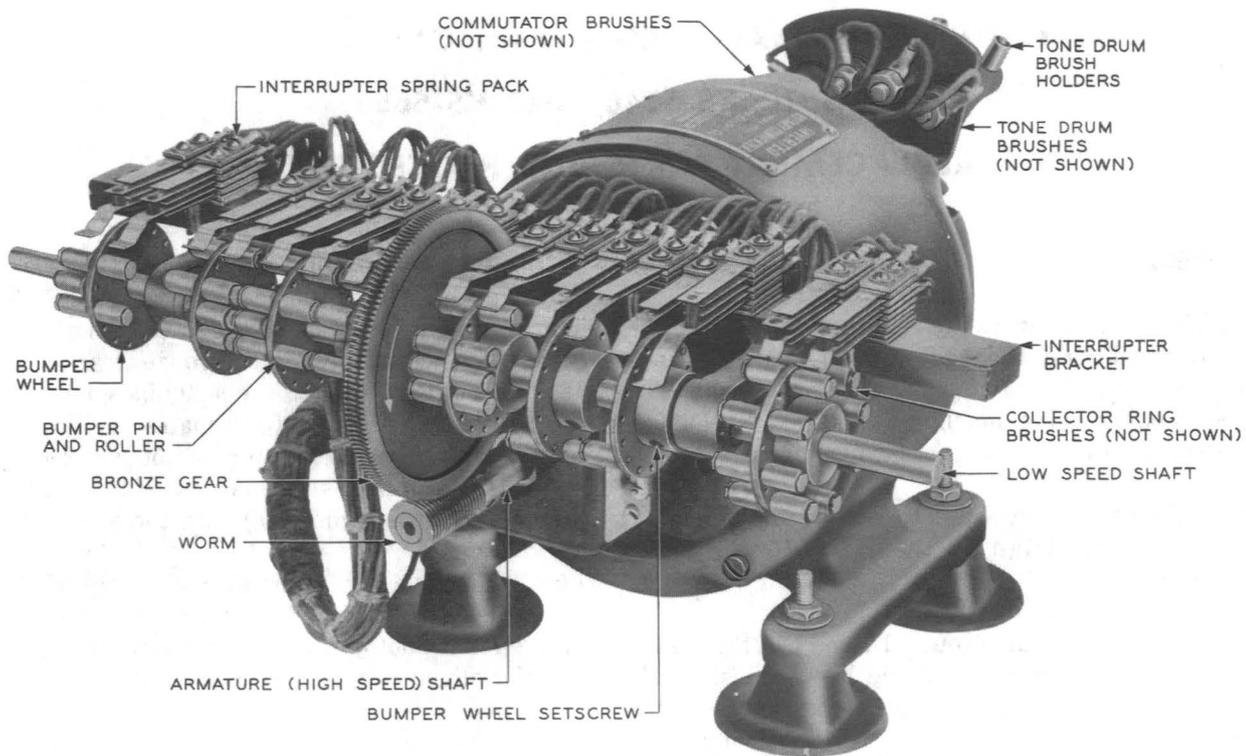
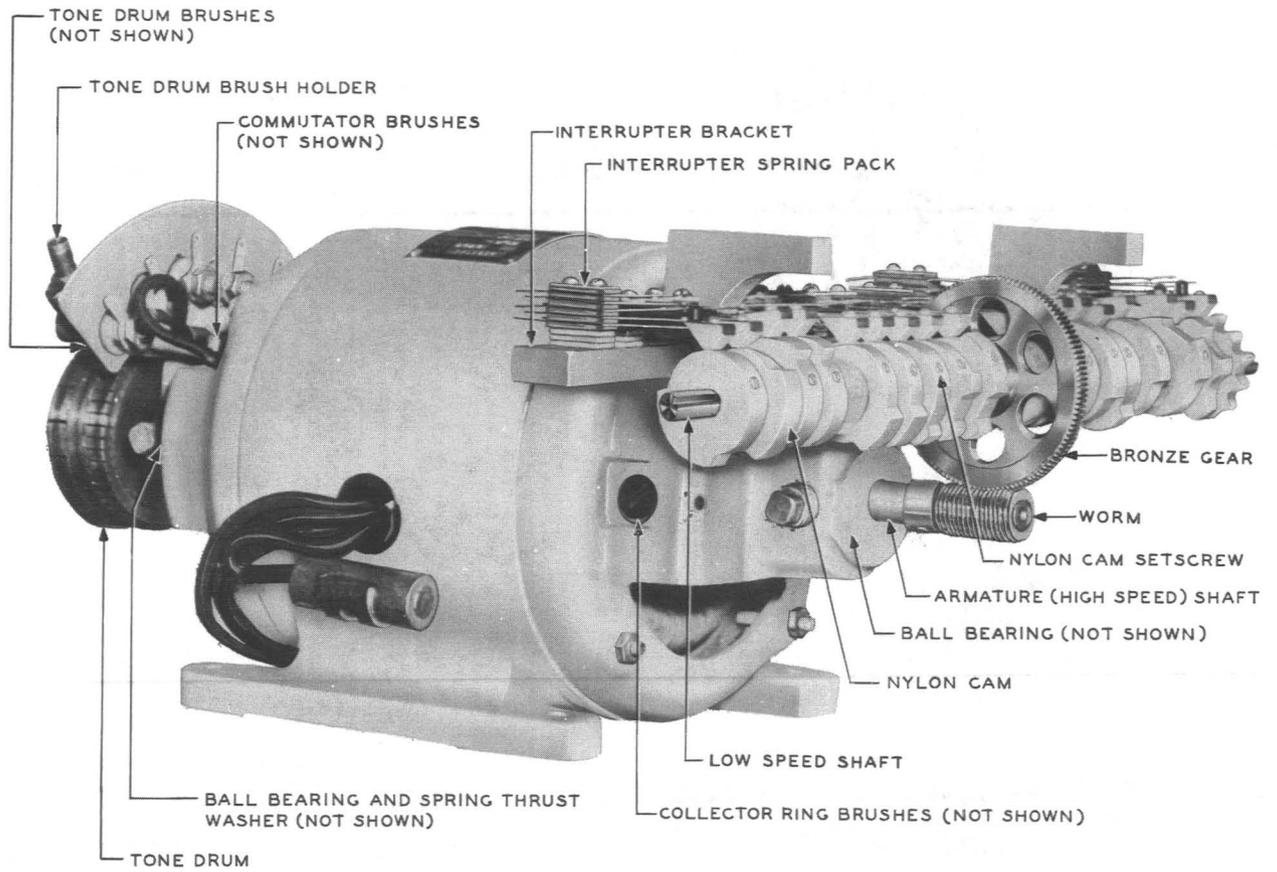
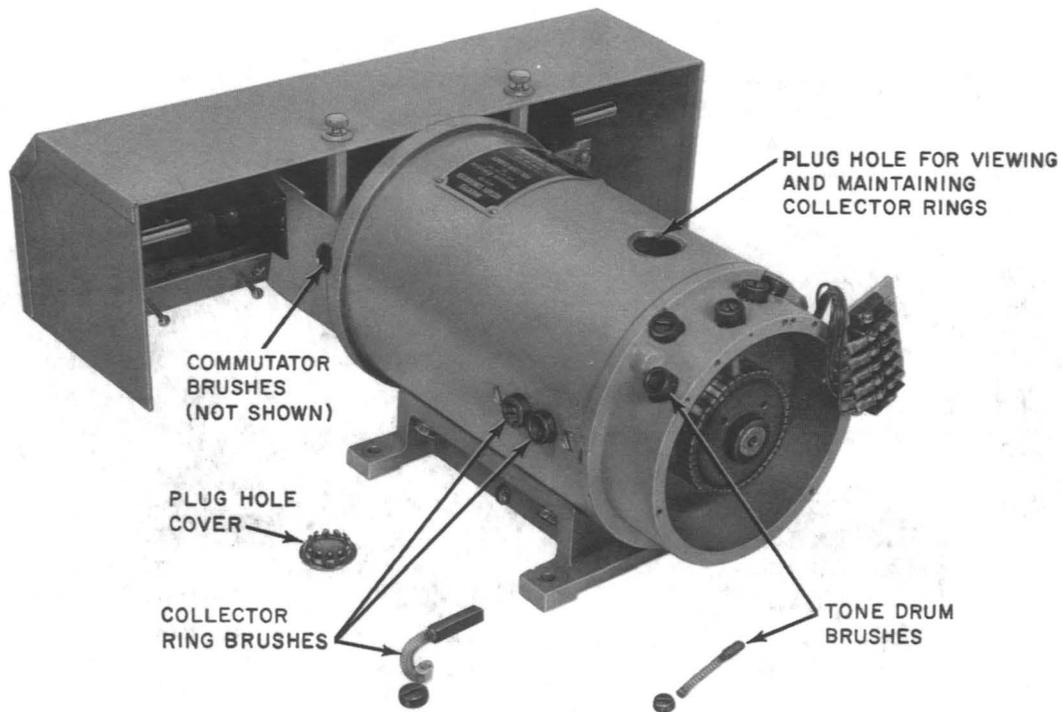
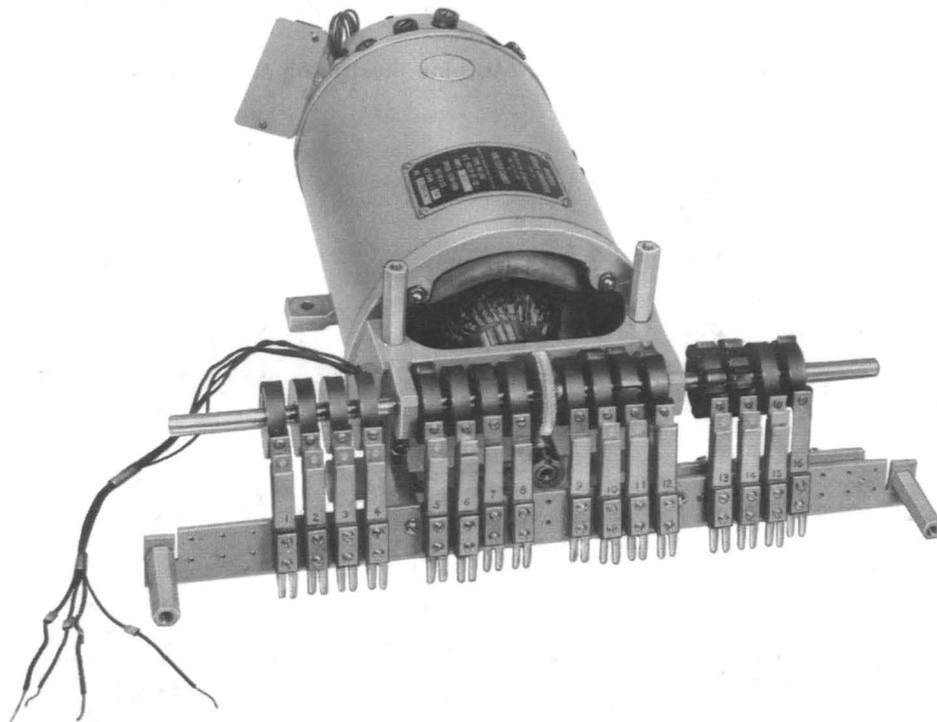

Fig. 1—KS-5546 L2 Ringing Machine (Old Design)◀
Fig. 2—KS-5659 L1 Ringing Machine Illustrating Nylon Cams
Fig. 3—KS-5546 L14 Ringing Machine—New Holtzer-Cabot Design
Fig. 4—KS-5546 L14 Ringing Machine—New Holtzer-Cabot Design (Interrupter Cover Removed)
1.06 Refer to Fig. 1 for a photograph of the old design KS-5546 L2 ringing machine and to Fig. 2 for a photograph of the KS-5659 L1 ringing machine illustrating nylon cams. Refer to Fig. 3 for a photograph of the new design KS-5546 L14 ringing machine and to Fig. 4 for a photograph of the new design KS-5546 L14 ringing machine with the interrupter cover removed.♦